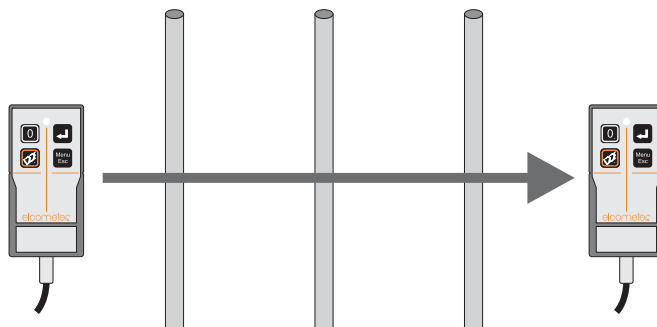

Figure 9. Align search head and scan across bars
9. Maintain the alignment of the search head and move the search head across the search area (Figure 9).